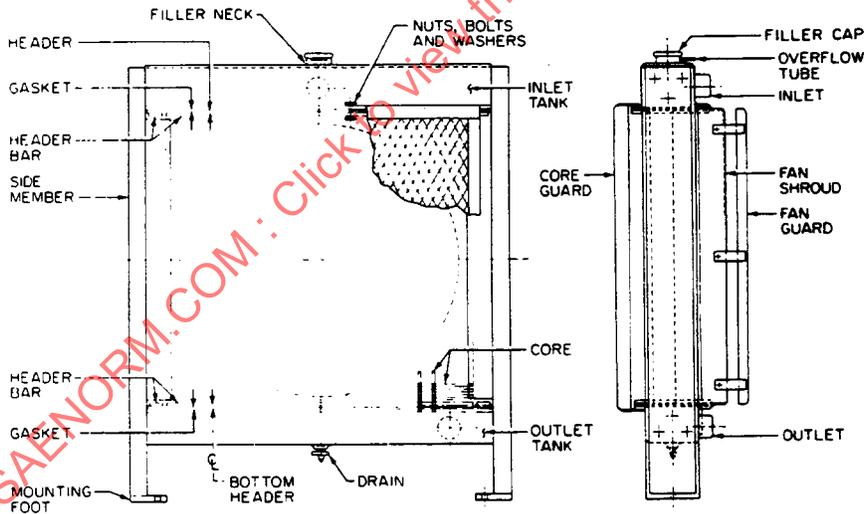

FIGURE 2—FABRICATED TYPE (ONE-PIECE CORE) RADIATOR
- 3.12 **Core Guard**—A screen-type device sometimes provided to protect the radiator core from damage due to dirt and debris in the cooling air stream. See Figures 2 and 3.
- 3.20 **Fabricated Radiator**—A radiator whose inlet and outlet tanks are fabricated, as well as its side members, usually by welding of steel plates or sheets. See Figure 2.
- 3.21 **Fan Guard**—A formed wire or screen device for the purpose of preventing injury to personnel by moving fan blades. See Figures 2 and 3.
- 3.22 **Fan Shroud**—A duct to guide the cooling air between the radiator and the fan, increasing fan efficiency and reducing cooling air recirculation. See Figures 2, 8, and 9.
- 3.44 Radiator Pressure Cap**—A removeable device which closes the cooling system fill opening (filler neck) and which incorporates pressure relief and sometimes vacuum relief valves. Refer to SAE J151 and SAE J164. See "Filler Cap" in Figures 2, 3, 4, 6, 7, and 8.
- 3.57 Shroud**—See Figures 2, 8, and 9.